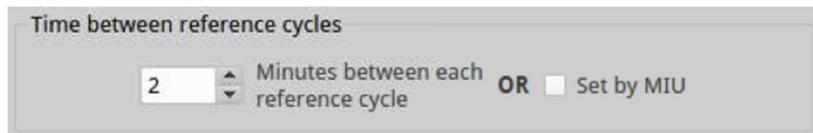

Figure 104: Time Between Reference Cycles Pane
9. In the *Time between reference cycles pane*, use the arrow scroll bar to set the number of minutes between each reference cycle. (Figure 104)